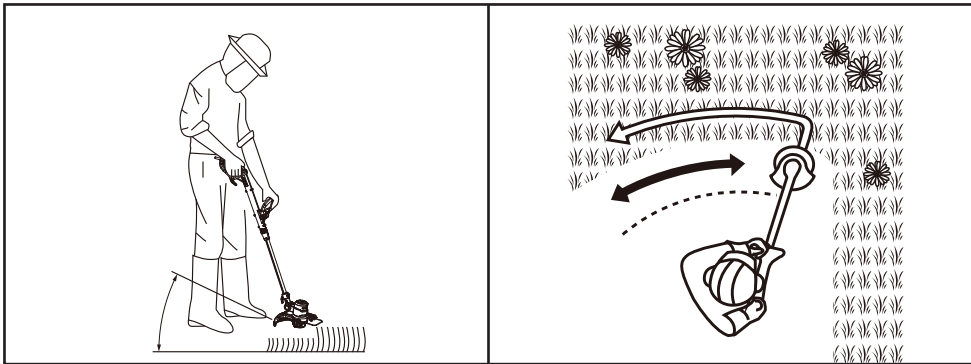

Fig. 8
- Make sure your stance is stable and hold the machine tightly with both hands at the upper handle (1) and the auxiliary handle (6).
- Adjust the main handle (1) angle to 0° for trimming.
- Hold the cutting head (15) just above the ground at an angle of approximately 30° (Fig. 8).
- Move the machine with a slow regular arc from left to right before moving it back to the starting position before trimming the next area (Fig. 8).